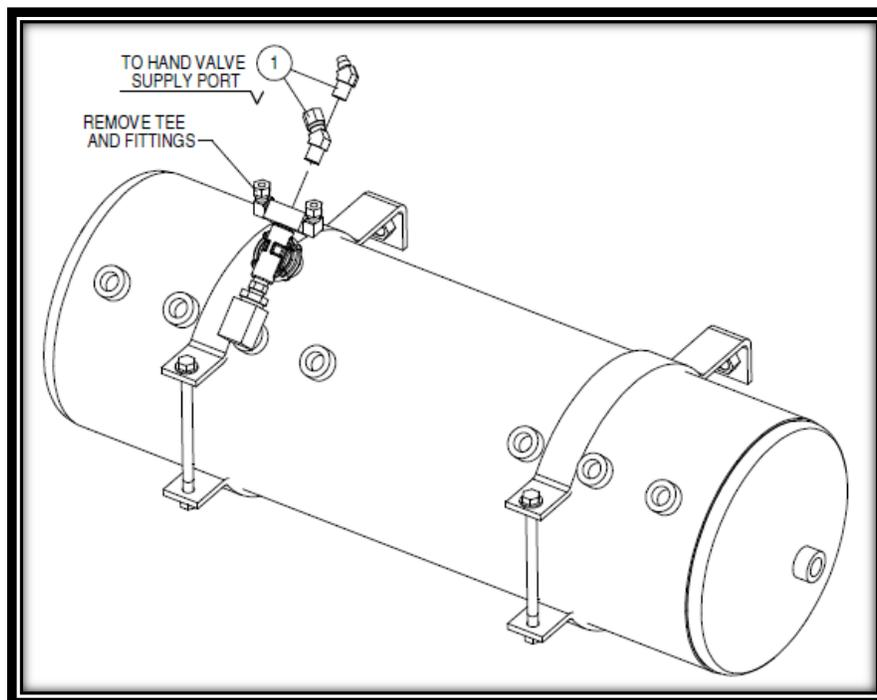

FIG 8.1
15. Locate the primary air tank. Identify the pressure protection valve with the air lines that route to the pump shift hand valve in the cab and the solenoid supply port. Remove the branch tee and fittings from the end of the pressure protection valve and replace it with 45° elbow fitting. Refer to Fig 8.1.